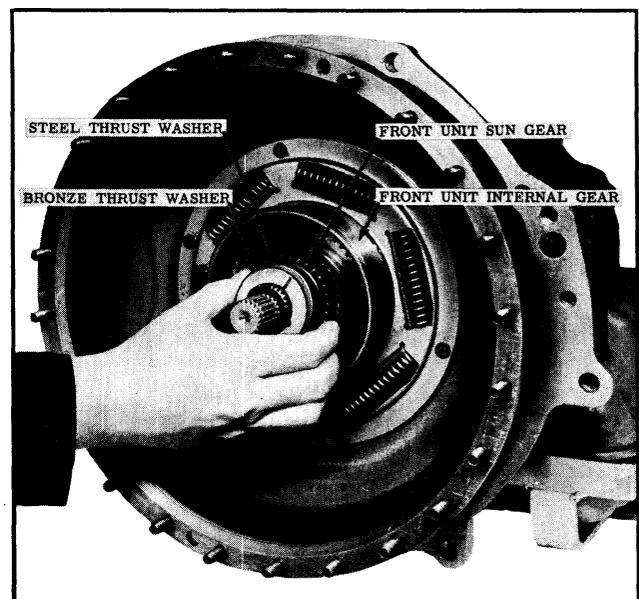

Fig. 3-22 Removing Thrust Washers
6. Remove the bronze and steel thrust washers from the intermediate shaft. (See Fig. 3-22)